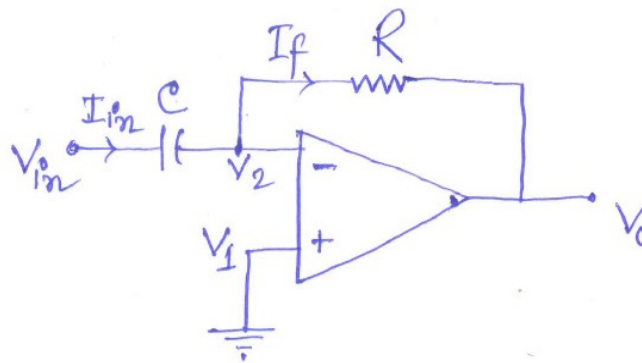

Fig.5.20 Simple differentiator circuit using op-amp
- A circuit in which the output voltage waveform is the differentiation of input voltage waveform is called differentiator as shown in Fig.5.20
From the circuit of fig.5.20 we can write  $I_{in} = I_f$